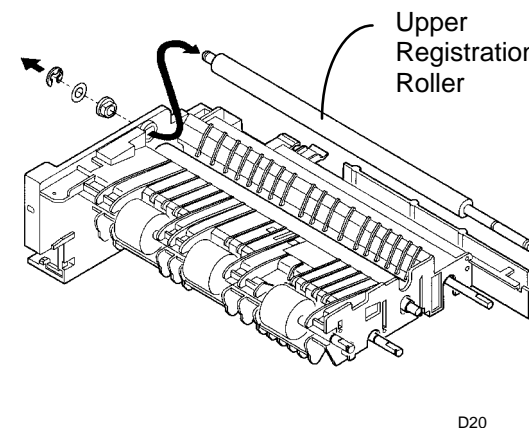

Figure 4. Removing the Upper Registration Roller
6. (Figure 4): Remove the E-Ring and Upper Registration Roller.